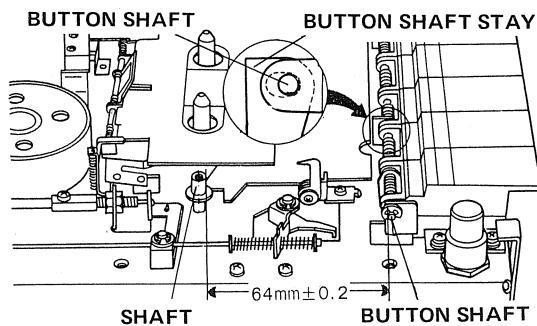

Fig. 9
1. Refer to Fig. 9. Adjust position of push-button assembly so that clearance between pushbutton shaft and SHAFT becomes  $64 \pm 0.2$  mm.
2. Confirm that there is no play between pushbutton shaft stay and pushbutton shaft. See small insert in Fig. 9.
3. Take clearance on the left as shown in small insert in Fig. 9.